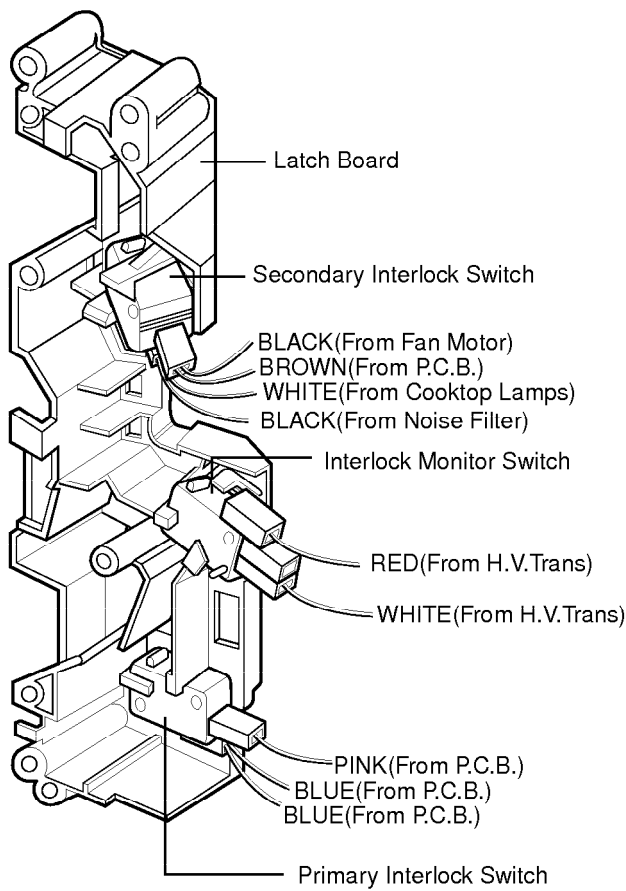

**Figure 15**
**B. REMOVING THE OUT CASE(Figure 15)**
- (1) Remove the vent grille by removing two screws securing it to the out case.
- (2) Remove two screws securing it to the front bracket.
- (3) Remove two screws securing it to the air duct.
- (4) Remove the mounting plate by turning the two screws securing it to the out case.
- (5) Remove the base plate by removing six screws securing it to the out case. Remove the Mount, All from the out case by removing two screws securing it to the out case and one screw securing it to the ventilation motor ASS'Y and cavity.
- (6) Remove the power cord cover from outcase by removing a screw.
- (7) Remove the power cord to the inner of the out case with turning power cord and remove the out case with pushing it back.